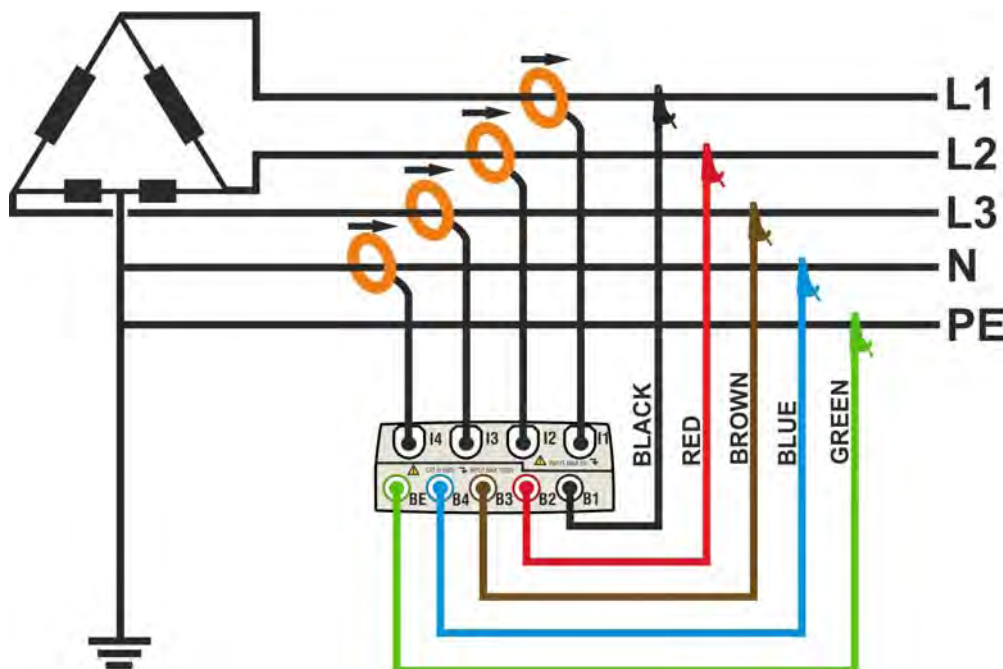

Fig. 138: Meter connection in a three phase 3PHL system – ENG type
2. Connect voltage test leads on Phases L1, L2, L3, N and PE cables considering the colours as shown in Fig. 138. **Verify the result "123" at display relative to a correct phase sequence indication** (see § 5.2.1) and perform the corrections if necessary.
3. Connect the transducer current clamps on Phase L1, L2, L3 and N cables as shown in Fig. 138 respecting the clamp's arrow direction indicating the current standard sequence from generator to load. **On Real Time Values' section screens (selecting a 3 wire system preliminarily) always verify the positive value of Active Power and the power factor relative to load which should be normally inductive** before starting a recording. Reverse the clamp by 180 degrees on cables in case of negative readings.